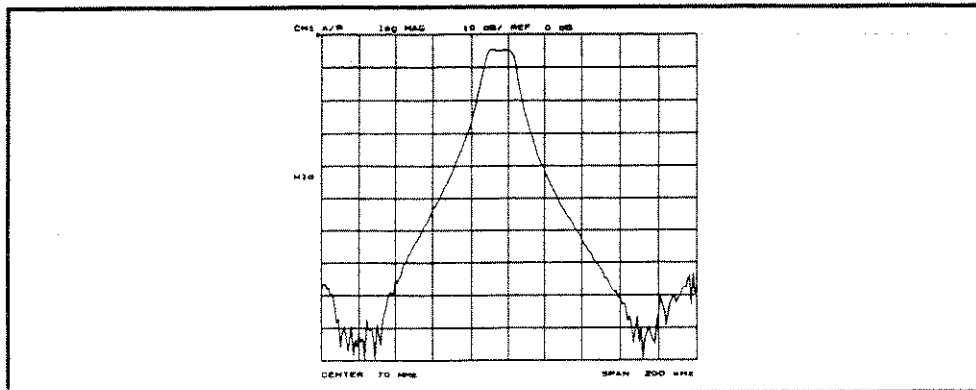

Figure 9-7. Log Magnitude Format
**LOG MAG** (LOGM) displays the log magnitude format. This is the standard Cartesian format used to display magnitude-only measurements of insertion loss, or absolute power in dB versus frequency. Figure 9-7 illustrates the bandpass filter transmission data in a log magnitude format.